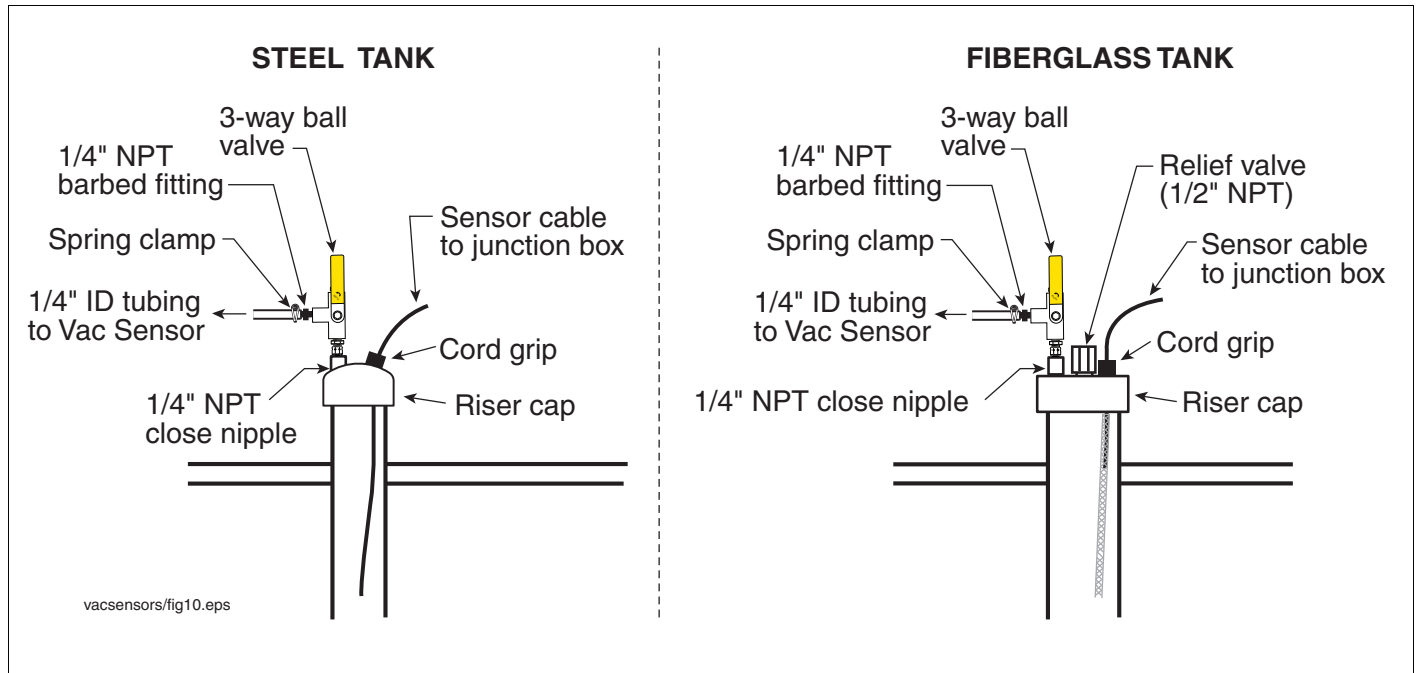

Figure 11. Example tank interstitial sensor riser cap connections - steel and fiberglass tanks
4. Apply sealant onto the threads of one end of the nipple and screw it into the 1/4" NPT port in the cap. Apply sealant to the other end of the nipple and screw on the 3-way ball valve. Apply sealant to the threaded end of the barbed adapter and screw it into the side port of the 3-way ball valve. (see Figure 11).